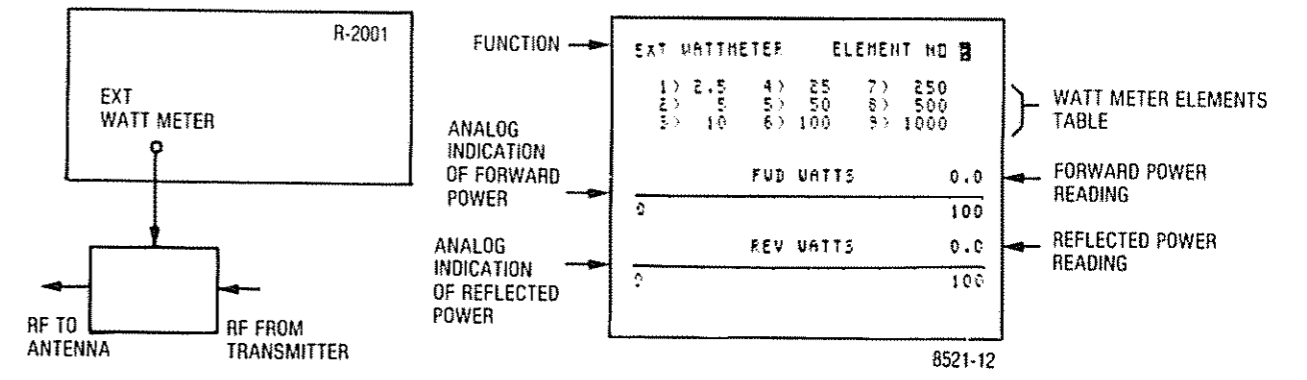

Figure 4-7. Wattmeter Test Setup and CRT Display
**4-13. EXT WATTMETER.** When the analyzer DISPLAY is set to the Ext Wattmeter mode and the Motorola RTL-4055A in-line wattmeter adapter (supplied) is connected to the Ext Wattmeter jack the analyzer measures both forward and reflected power. The power rating of the wattmeter elements (Motorola ST-1200 series\*), to be used, are displayed on the CRT. The following is an example of a test setup for external wattmeter operation. Figure 4-7 shows the test set connections and CRT display.